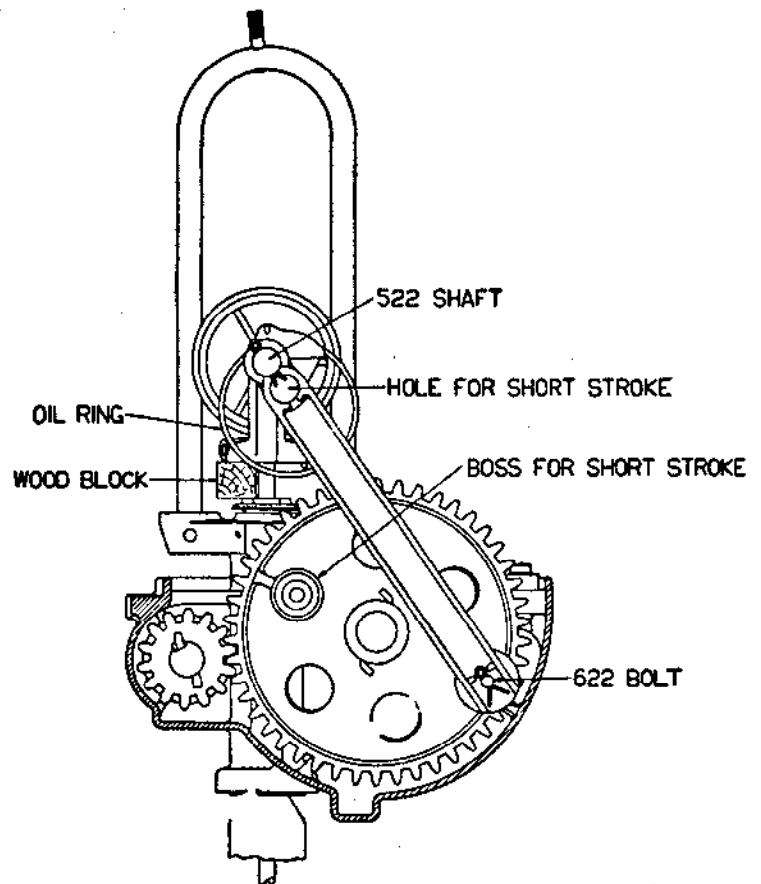

FIGURE 16
1. Turn the large gears until the pitmen are near the bottom of the stroke. (If the pump rod is under load, support the pump rod yoke with a wood block as shown in Figure 16. A piece the size of the pump pole will do.)